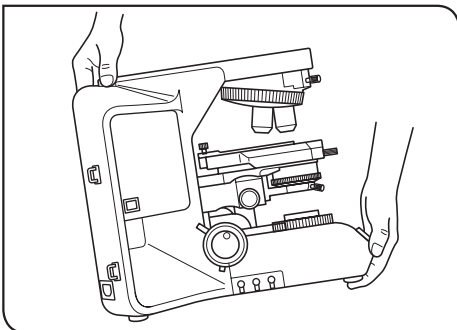

Fig.2
(Fig.2)
3. When moving the microscope, remove the observation and specimen and carefully carry the microscope by holding the grasping part on the rear of the arm and the front part of the base as shown in Fig2.